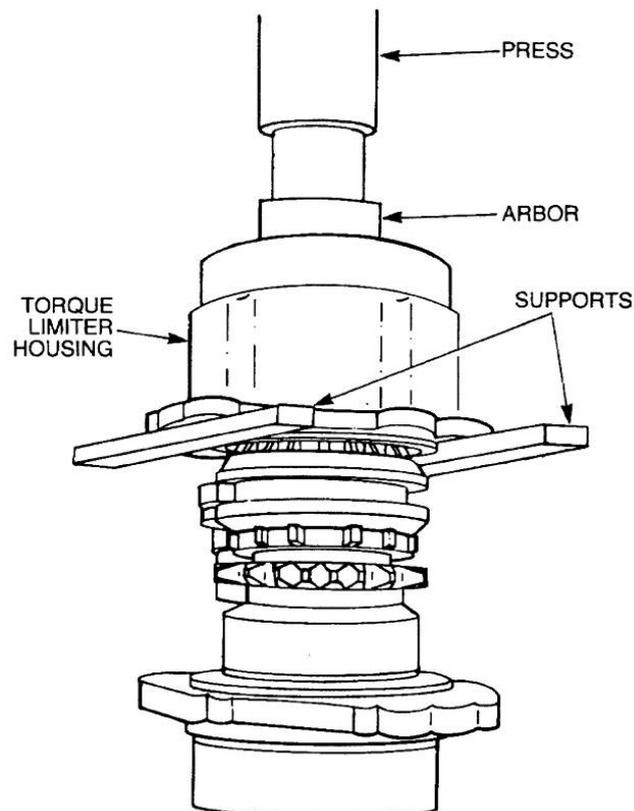

Figure 218 Removal of the Shaft Assembly
- c. Remove the hexagonal cap from the housing, and using a suitable press and arbor, remove the PTO and torque limiter assembly from the housing (Figure 218).